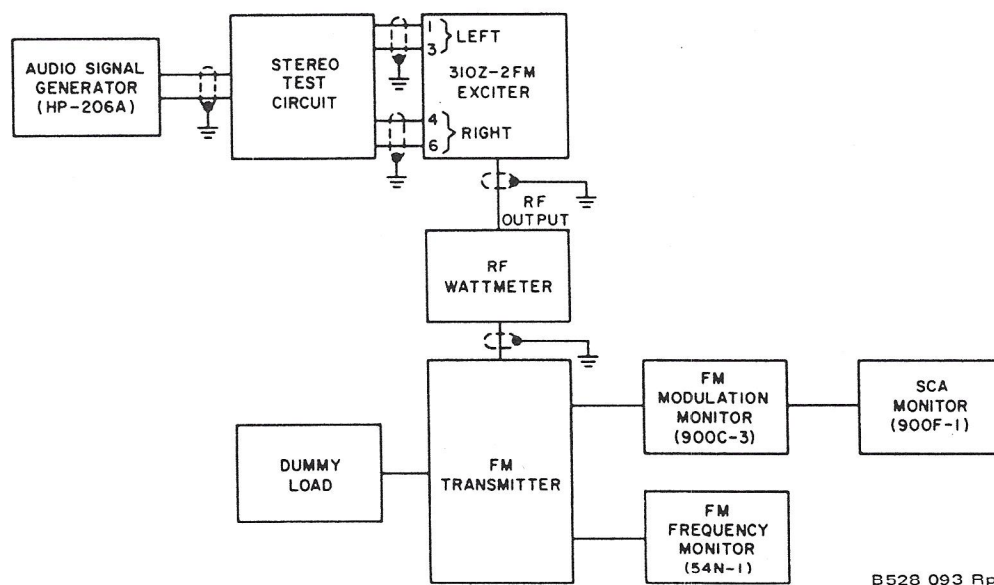

Figure 5-2. Test Equipment Connections to 310Z-2 for Adjustment and Test Procedures.
- a. Remove exciter from transmitter or equipment rack, remove rear cover, and connect equipment as shown in figures 5-2 and 5-3.
Read and understand procedures for measurement of main and subchannel audio in modulation monitor instruction manual. Connect 310Z-2 exciter as shown in figure 5-2, and set S2 to stereo mode.
- a. With equipment connected as shown in figure 5-2, set MODULATOR METER switch on FM modulation monitor to SCA MOD.
- a. With equipment connected as shown in figure 5-2, turn stereo test circuit switch to OFF.
- a. Connect equipment as shown in figure 5-2.
- a. Connect the equipment as shown in figure 5-2, and turn stereo test circuit switch to OFF.
- a. Connect the equipment as shown in figure 5-2.
- With the equipment connected as shown in figure 5-2, set the MOD switch on the 310Z-2 to LEFT and the stereo test circuit switch to L.
- a. With equipment connected as shown in figure 5-2, set the MODULATION switch on the 310Z-2 to STEREO and the stereo test circuit switch to LEFT.
- a. With equipment connected as shown in figure 5-2, place PILOT CARRIER switch to ON.